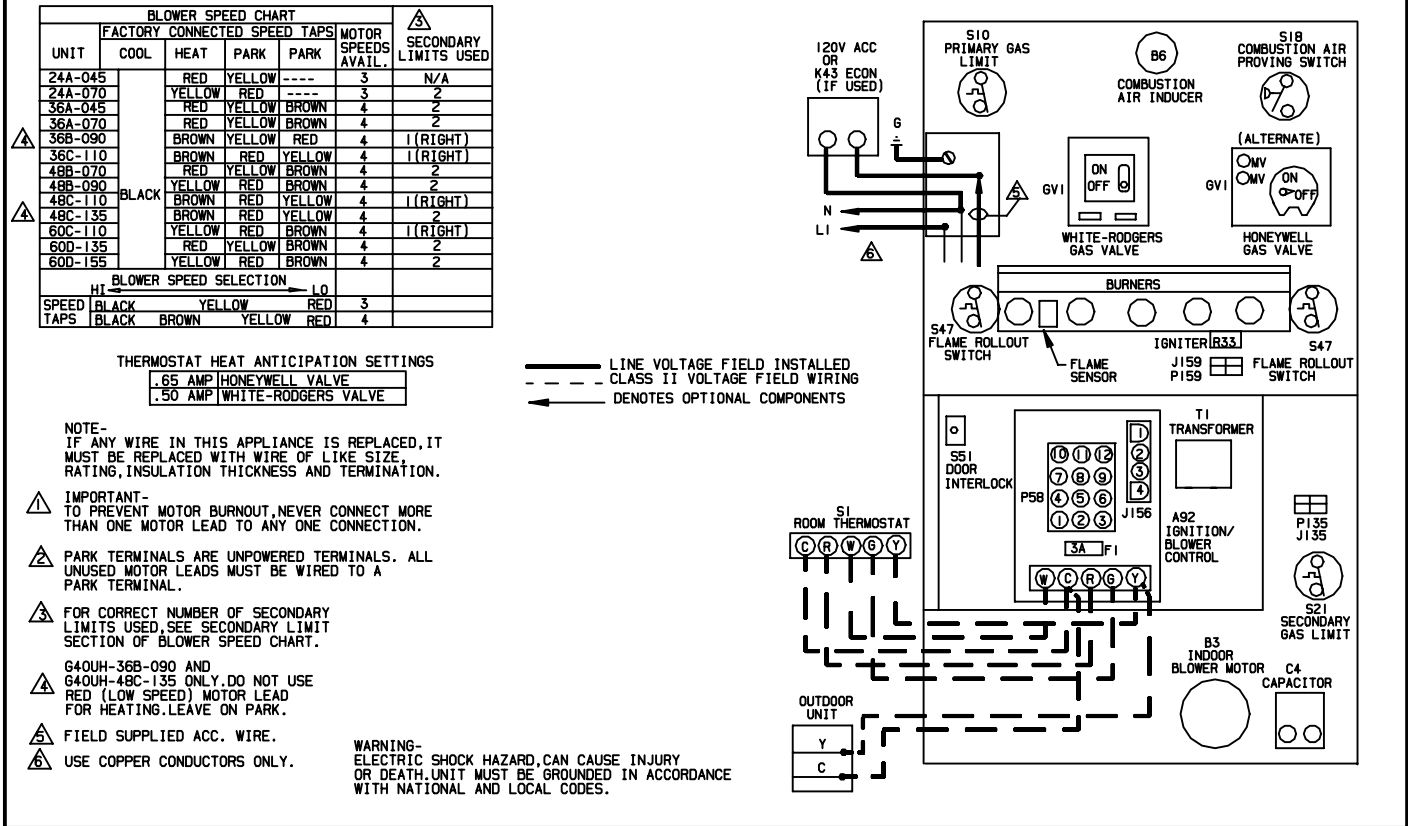

FIGURE 24
Refer to figure 24 for field wiring and figure 26 for schematic wiring diagram and troubleshooting.
- 5 - Complete the wiring connections to the equipment. Use the provided unit wiring diagram and the field wiring diagram shown in figure 24. Use 18-gauge wire or larger that is suitable for Class II rating for thermostat connections.
*NOTE - The G40UH(X) furnace contains electronic components that are polarity sensitive. Make sure that the furnace is wired correctly and is properly grounded.*